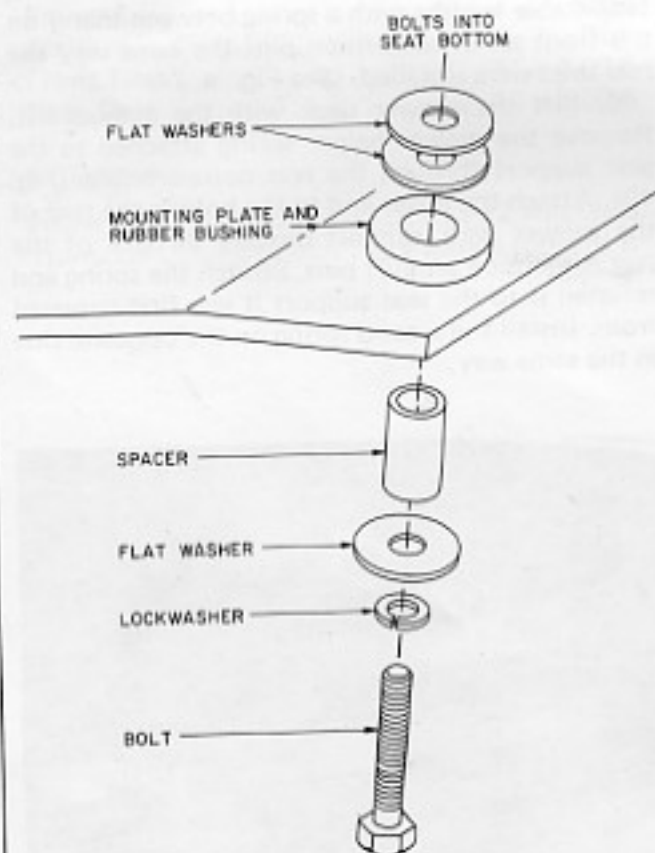

Fig. 22 Seat Mounting
11. Mount the seat on the two rubber spacers in the seat support frame. This is done by taking one 5/16 x 1-7/8 inch bolt, placing a 5/16 inch lockwasher, plain washer, and metal sleeve over it, sliding it through the rubber spacer, adding two additional 5/16 inch washers, and screwing the bolt into the matching hole in the bottom of the seat front. (See Fig. 22.)